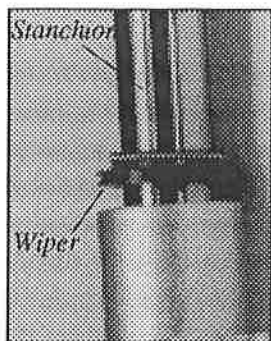

Fig. 11
17. Remove the wiper (Fig. 11).